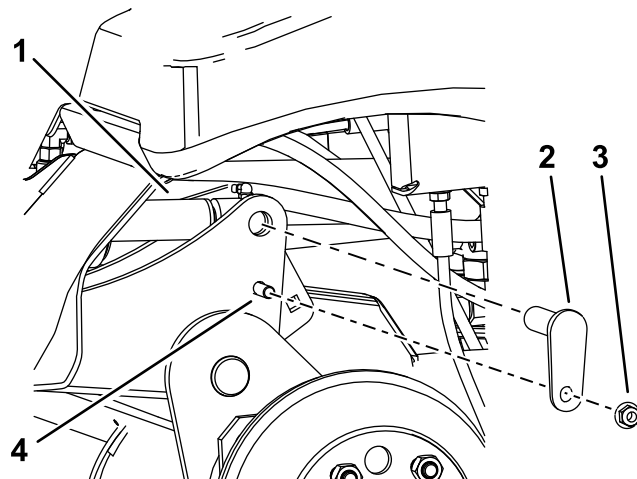

Figure 9
- C. Use a drift punch to align the cylinder rod holes with the lift-arm holes (Figure 9).
- D. Use 2 bolts (3/8 x 1-1/4 inches), 2 nuts (3/8 inch), and 2 small pins to secure the lift arms to the cylinders (Figure 9).